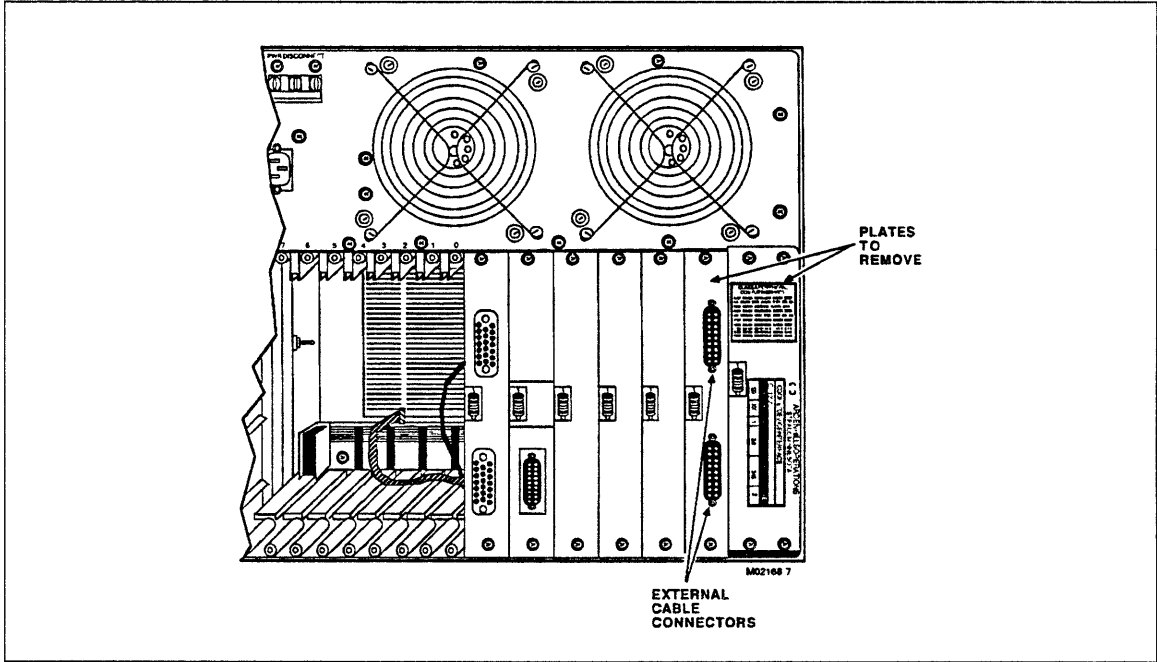

Figure 9-28. Retainer/Filler Plates (Back View)
4. Disconnect external cable on back of MPB retainer plate (figure 9-28).
5. Remove two plates from back far right corner of DI (figure 9-28).